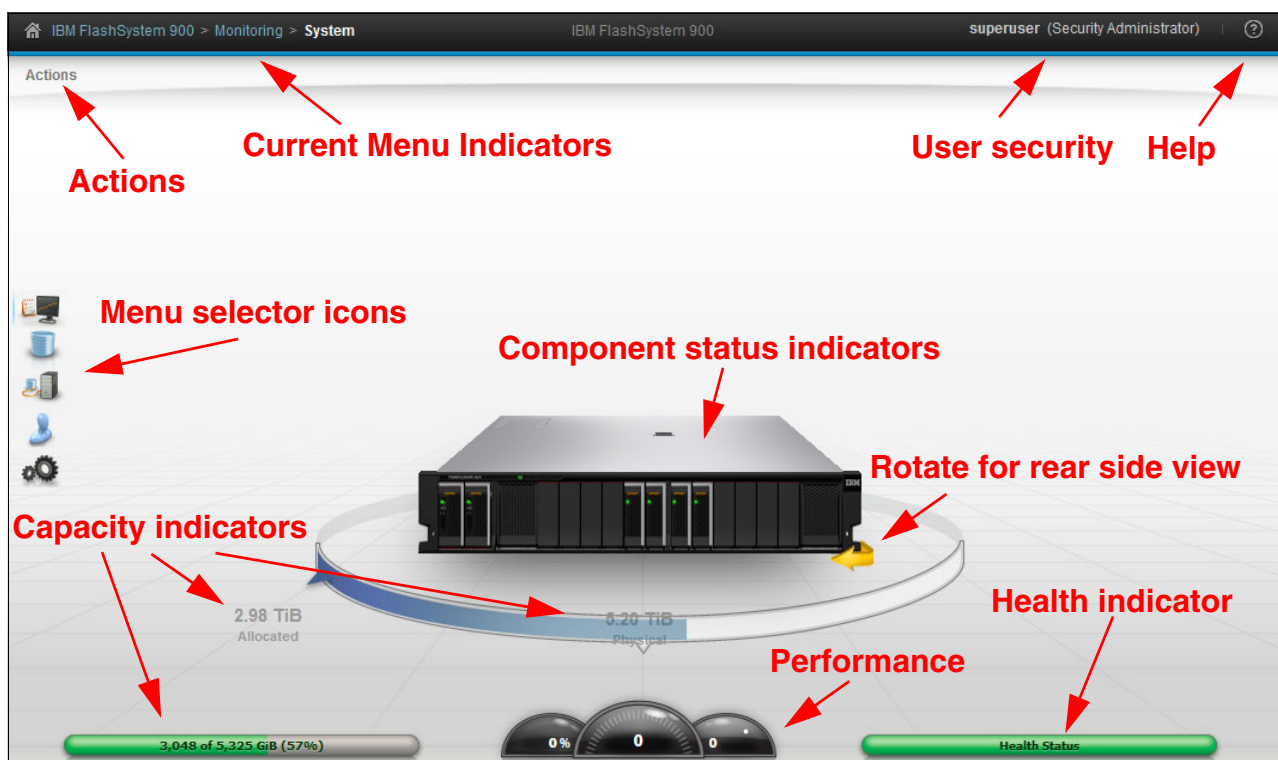

Figure 6-3 Home window: Main areas
The GUI has three main sections for navigating through the management tool (Figure 6-3 on page 164):
- ▶ Current menu indicators: Shows the path where the menu is located (as shown in Figure 6-3 on page 164, IBM FlashSystem 900 > Monitoring > System).
- ▶ Capacity indicators: Figure 6-3 shows 5.20 TiB of physical Flash module space and 2.98 TiB of allocated space. The bottom left shows capacity with 3,048 used GiB of 5,325 GiB installed capacity, with 57% used.
- ▶ Health Indicator: Shows the health of the system. Figure 6-3 indicates that the system is healthy (green).